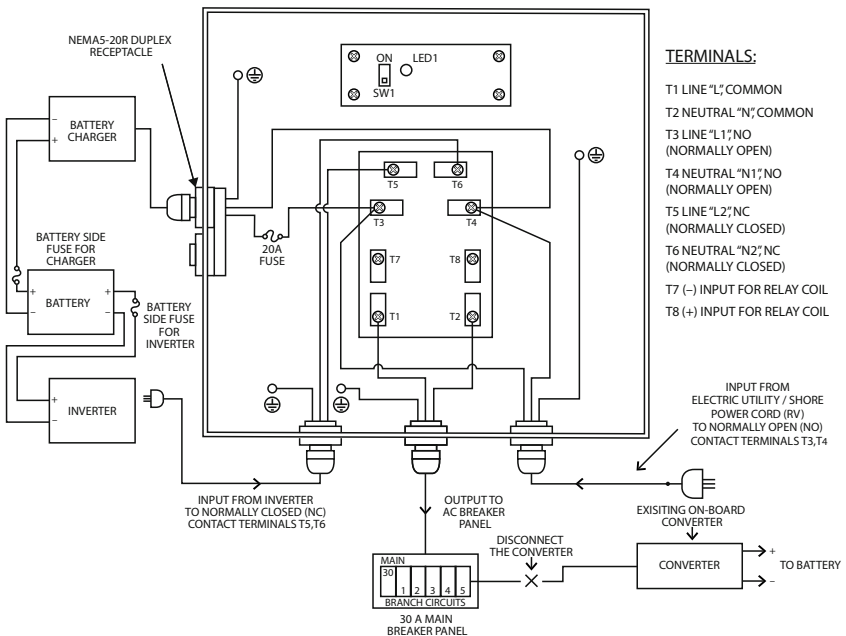

Fig.4. Switching Between Utility and Inverter
- b. Use AWG#10/3 (30A) cable to connect AC input power from Utility/Shore Power Cord (RV). A 3/4" cable clamp (4, Fig 4) has been provided for cable entry. More 3/4" / 1" knock outs have also be provided for cable entry from other sides and may be used Connect the cable as follows:
- c. Use AWG#10/3 cable to connect the AC output to the main breaker panel by using a convenient knockout / cable clamp (3/4" or 1") for cable entry. Cable clamp has not been provided for this connection and has to be provided by the user. Connect the 3 wires as follows (Fig 4):
- d. Plug the NEMA5-15 plug (2, Fig 1) of the inverter power cord (1, Fig 1) to the output of the inverter (Fig 4). As pointed out earlier on page 8, in case the inverter capacity is >1800 VA & up to 3600 VA, appropriate connection arrangement using AWG#10/3 wiring will have to be used. **Please ensure that the inverter is switched OFF and the battery input connection to the inverter is disconnected.**
- e. Plug the external battery charger to one of the receptacles of the NEMA-20R Duplex receptacle (3, Fig 1; Fig 4). **Please ensure that the AC input current of the battery charger is less than 16A continuous as the receptacle is internally fused at 20A max. In case the current drawn by the external battery charger is > 16A continuous, the charger should be wired to a separate circuit connected to the NO contact terminals T3 and T4 through a fuse applicable to the input current of the charger.**
- f. **In case the Transfer Switch is being used in an RV application, the built-in converter of the RV should be disconnected from the AC Breaker Panel (Fig 4).** This is necessary because when the electric utility / shore power cord / the generator fails / is removed, the panel will be fed by the inverter and if the converter is not disconnected from the panel, it will result in a battery to inverter to converter to battery loop that will quickly drain the batteries. In case the external battery charger is not being used, the converter may be re-wired to the NEMA5-20R Duplex receptacle (3, Fig 1). As these receptacles are connected to the NO contact terminals T3 and T4, the converter will always be powered from the electric utility / shore power cord / the generator.
### TESTING OF THE OPERATION (FIG 4)